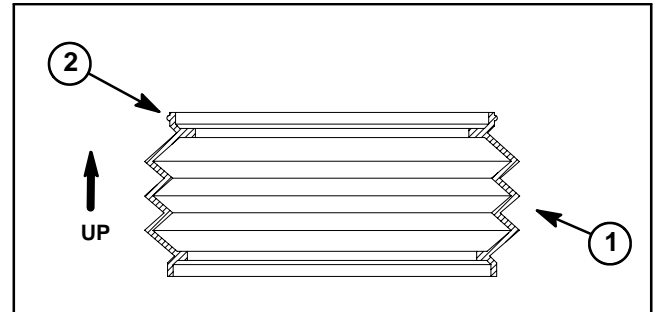
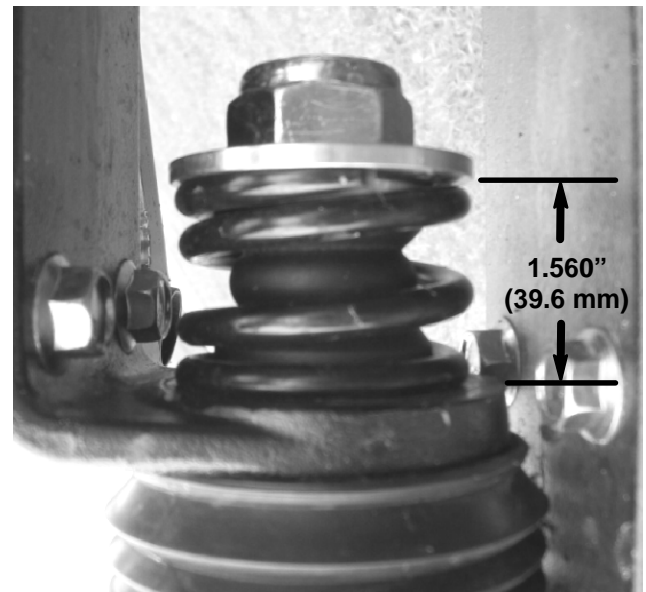

Figure 33
Figure 34
1. If pivot bracket (item 11) was removed from machine, lightly lubricate bushings (item 12) with motor oil before assembly. Connect boom lift cylinder (not shown) to pivot bracket (see Boom Lift Cylinder Installation in the Service and Repairs section of Chapter 4 - Hydraulic System).
2. Make sure that hinges (item 1) are securely fastened to pivot bracket (item 11) and boom (item 5). The boom hinge uses four (4) backing plates between the boom and flange nuts.
3. Position boom hinge to pivot bracket hinge. Make sure that rubber boots (item 2) are placed at hinge junctions and that rib on boots is toward the top of the boom (Fig. 33).
4. Insert two (2) cap screws (item 9) through flat washers (item 10) and hinges. Place tube (item 17), breakaway spring (item 19), spring retainer (item 18) and lock nut (item 8) on each cap screw. Make sure that shoulder on spring retainer fits into breakaway spring.
5. Tighten lock nuts so there is 1.560" (39.6 mm) between the face of the spring retainer and the hinge casting (Fig. 34).